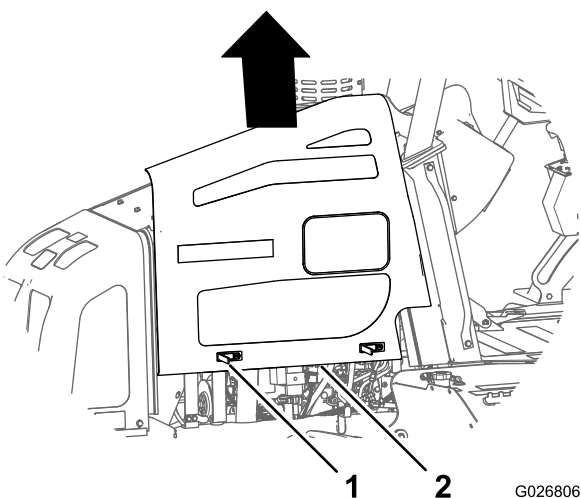

Figure 66
4. Lift the panel up and then away from the machine (Figure 66).